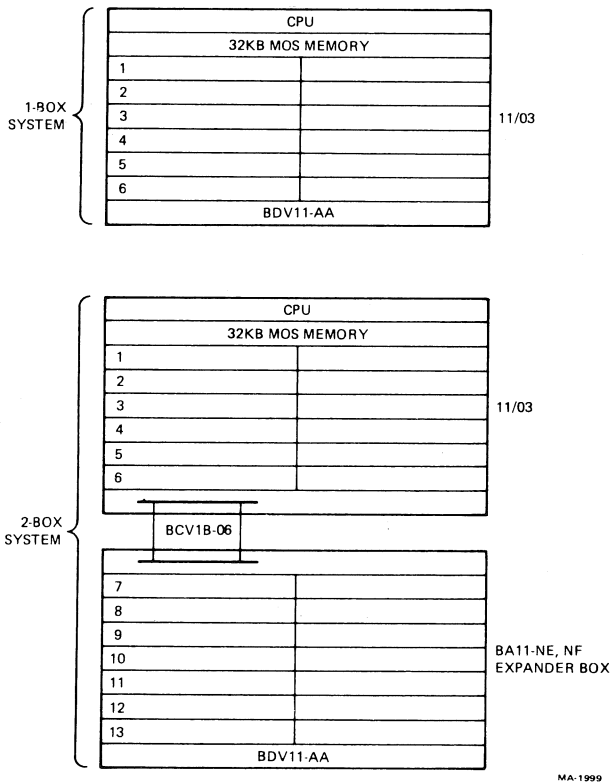

Figure 4 Configuring Large Box
3. Loosen the cable strain reliefs and open the rear door of the box to install the LSI-11 bus expansion cable assemblies. Two cable assemblies are used. Table 2 describes the assemblies and tells where to insert the assembly modules. (Figure 4 illustrates module placement.) When inserting the modules, make sure the connectors are on top.